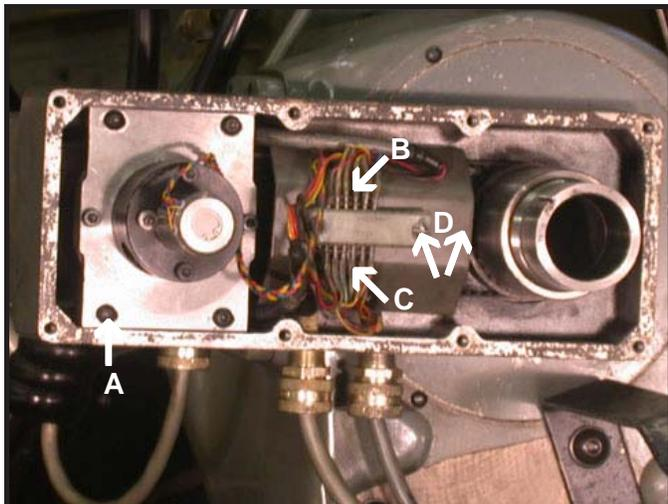

Figure 2.5.4
- On the upper side of the spindle feedback terminal strip, cut the (8) wires from the spindle feedback unit to the terminal strip (B).
- On the lower side of spindle feedback terminal strip, cut the (8) wires coming into the spindle feedback terminal strip. (C).
- Remove screws holding the terminal strip and guard (D).
- Remove (4) SHC screws (Figure 2.5.4 - A) to remove spindle feedback unit.